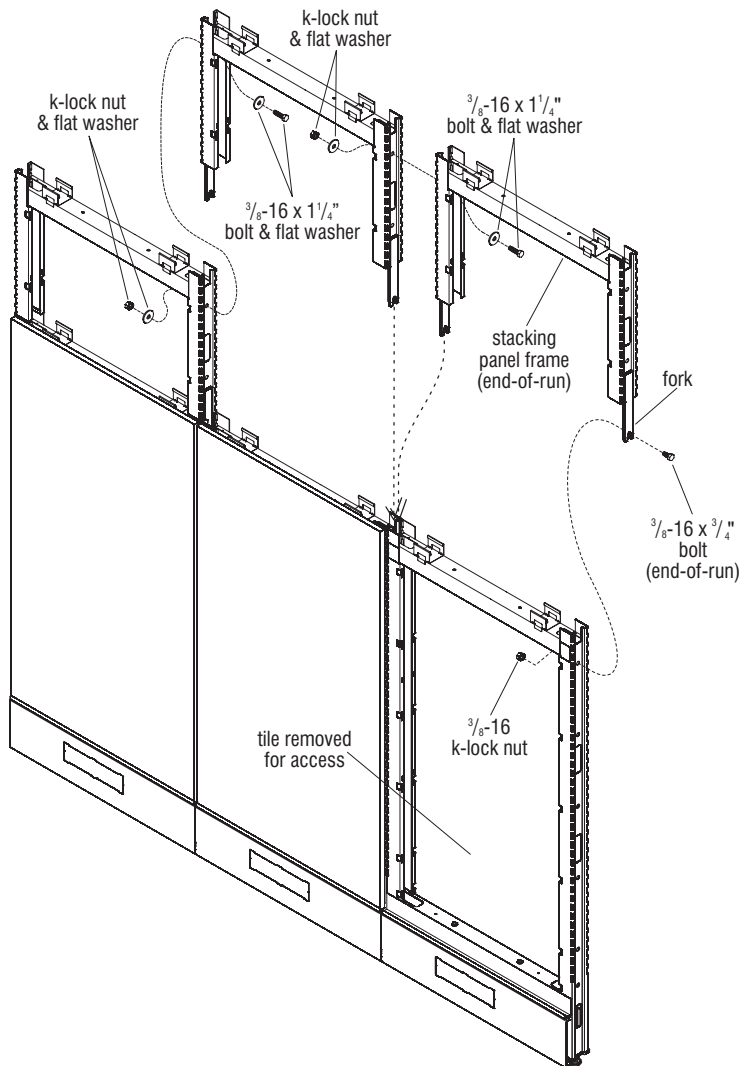

**Figure 16 - Preconfigured Segmented Panel with Glass or Steel Top (aluminum frame) - Installation of Glass or Steel Top**
8. Segmented panel frames at end of run panels, or at in-line changes of height, require a metal spacer and screw to secure the end segmented panel to the vertical stacking posts. Position and hold one metal spacer between the top vertical member of the vertical stacking posts, and the top frame. Align with the mounting holes of both, then insert and tighten one #12 x 1" sheet metal machine screw (Figure 16).